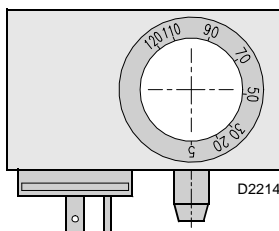

Fig. 19
- adjust the minimum gas pressure switch (Fig. 19) on the gas train, at the start of the scale;